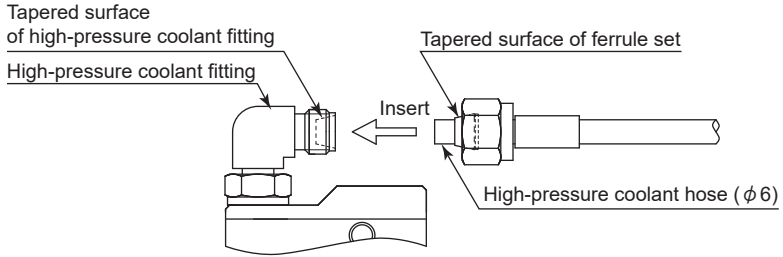

Fig. 15
- (1) Insert the high-pressure coolant hose (diameter  $\phi 6\text{mm}$ ) so that the tapered surface of the ferrule set fastened to the high-pressure coolant hose (diameter  $\phi 6\text{ mm}$ ) fits tightly against the tapered surface of the high-pressure coolant fitting. (Fig. 15)